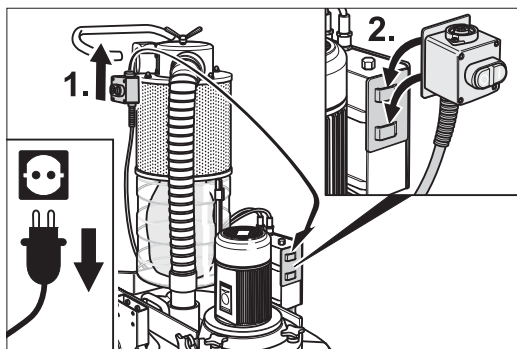

Fig. 19 Hook the on/off switch into the transport support on the motor switch box.
- 4 Remove the on/off switch from the chassis and hook it into transport support on motor switch box (Fig. 19).